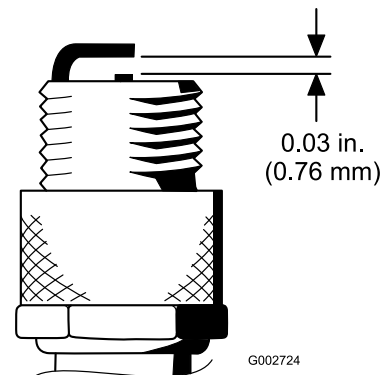

Figure 40
4. Set the air gap between the center and side of the electrodes at 0.76 mm (0.030 inch) as shown in Figure 40.